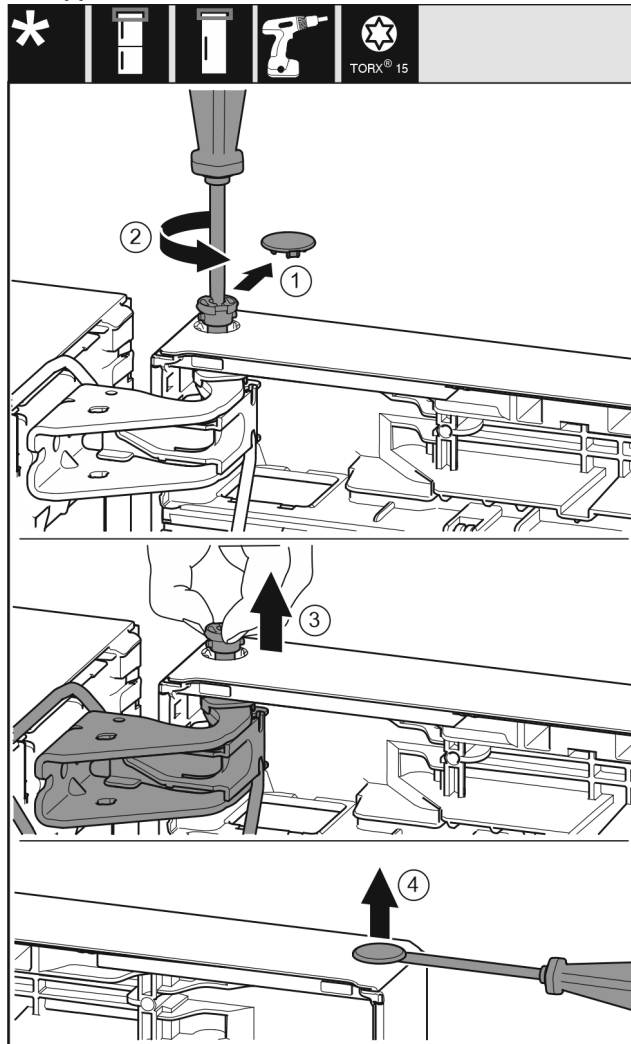

Fig. 22
- Carefully remove the protective cover. Fig. 22 (1)
- Undo the bolt a little with a T15 screwdriver. Fig. 22 (2)
- Hold the door and remove the bolts with your fingers. Fig. 22 (3)
- Carefully lift the plugs out of the door bearing bush with a slotted screwdriver and pull them out. Fig. 22 (4)